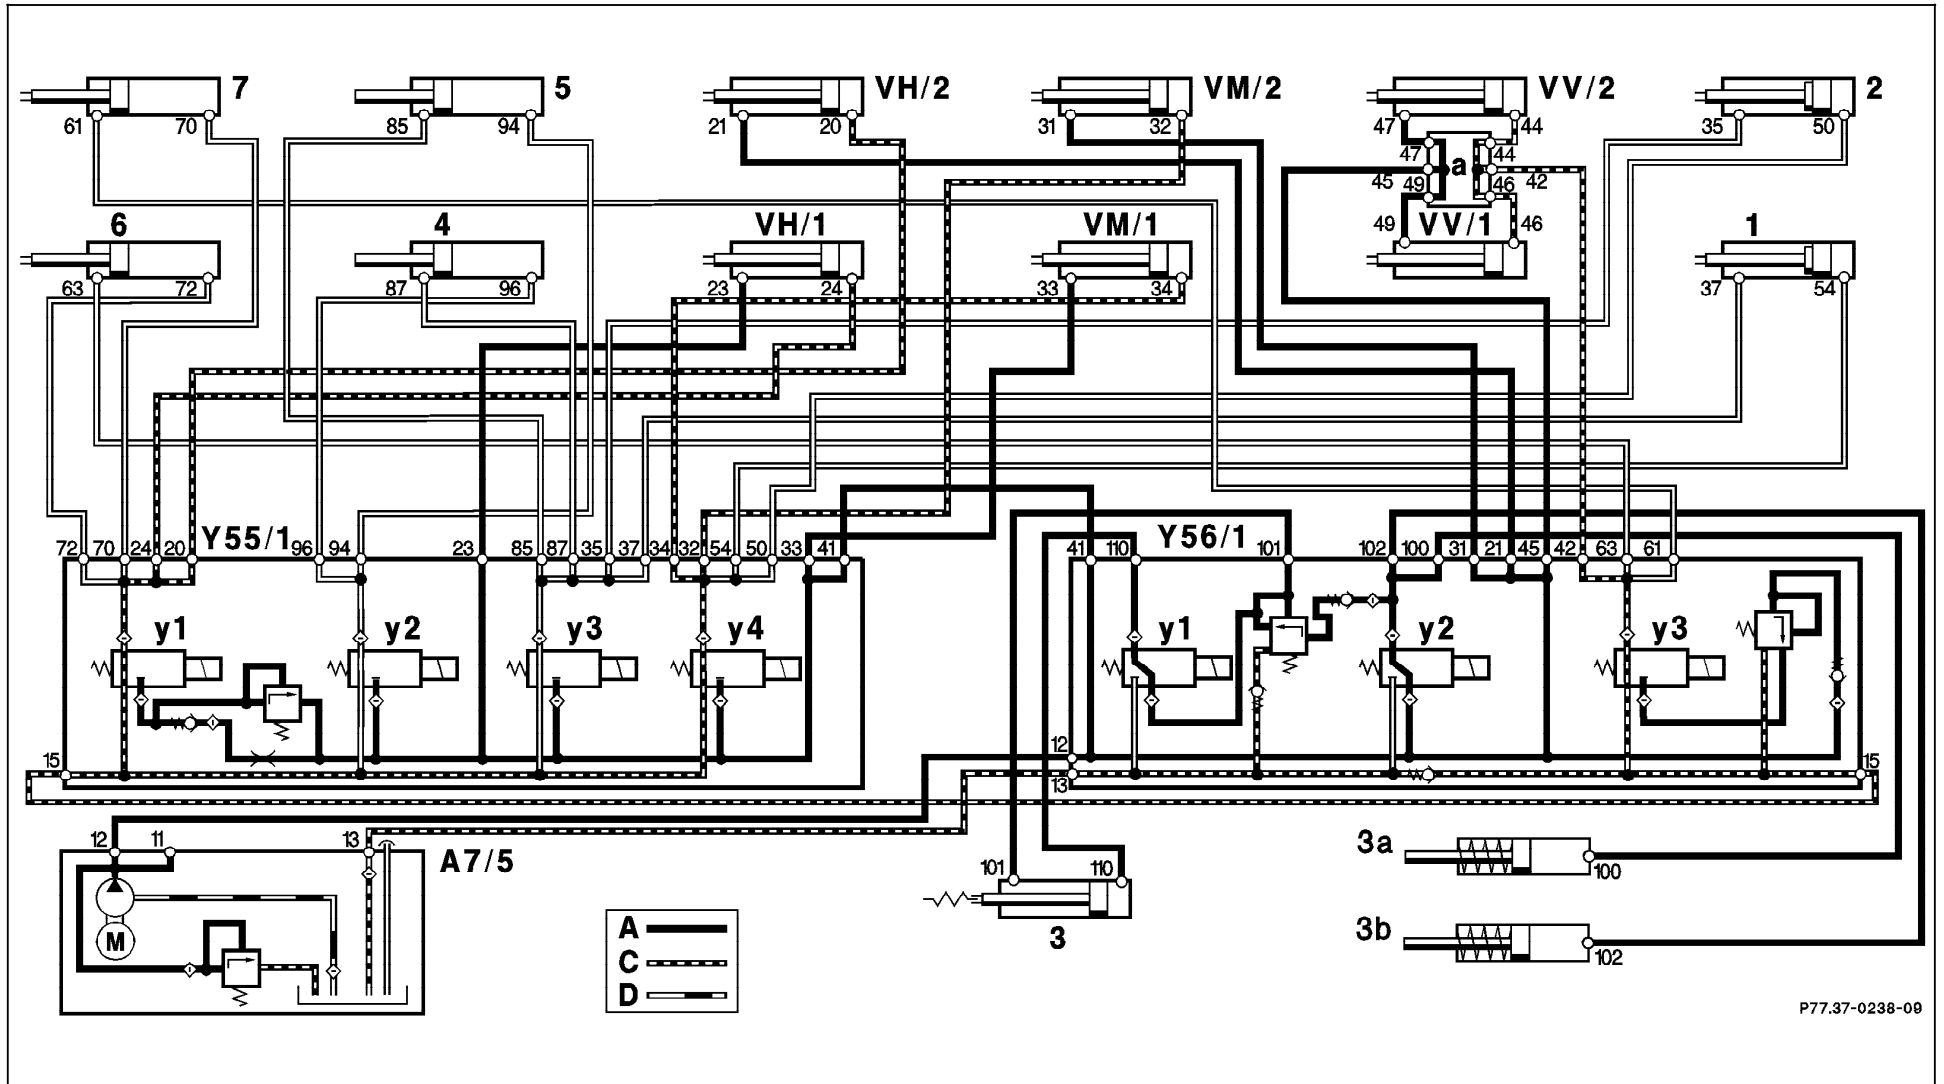

Figure 39
| 17.0 |   | <p>Raise roll bar(Figure 39)</p> | <p>Connect pressure gauge according to connection diagram (Figure 4).</p> | <p>Roll bar lowered</p> <p>Ignition: ONPress and hold RB switch: “raise“. Have a second technician unplug relay (A7/5k1, Figure 4) after 5 sec. Keep switch depressed an additional 5 sec.</p> <p>Read test pressure:</p> <p>Release test pressure:Press soft top switch briefly several times.</p> | <p>120 – 200 bar</p> | <p>Nominal values ok:Hydraulic cylinder lock in roll bar support element (3) does not unlock.</p> <p>Replace support element (SMS, Job No. 91-920).</p> <p>&lt;120 bar:⇒ 4.0.</p> |